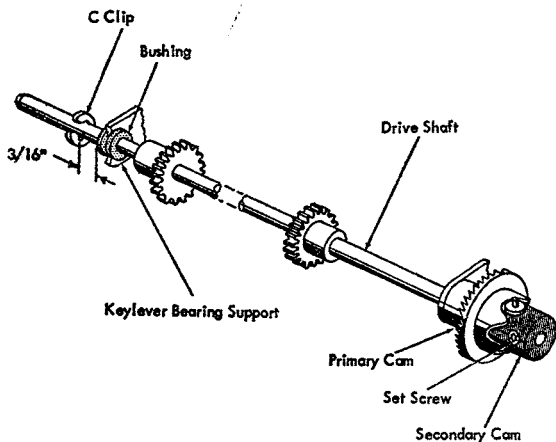

Figure 41. Drive Shaft Adjustment
**11. DRIVE SHAFT.** With the reverse lever unlatched, position the drive shaft to the left so there is a clearance of  $\frac{3}{16}$ " between the C clip on the shaft and the left-hand bushing in the keylever bearing-support (Figure 41). Set the nylon primary cam against the keylever bearing-support and tighten the set screw in the secondary cam.